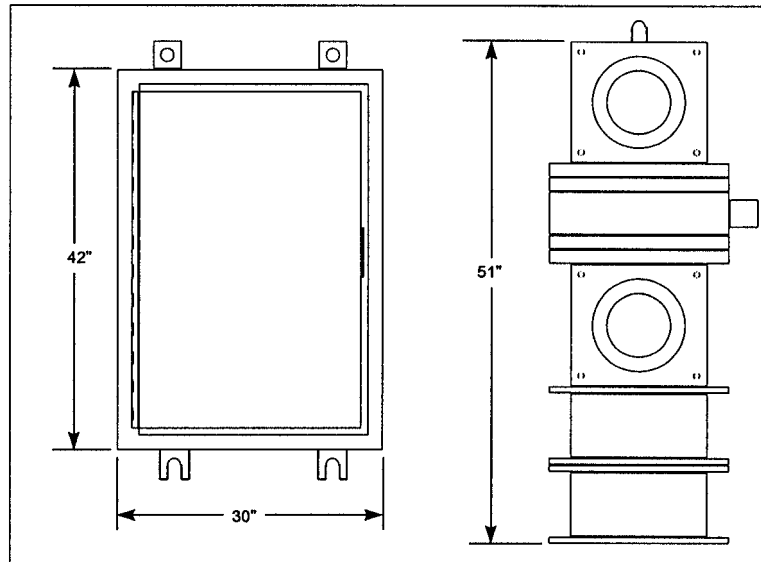

Figure 5-1
- a. The CG-1000 sound signal system is comprised of a CG-1000 power supply and an ELG-300/02 (or ELU-300/02) emitter (Figure 5-1). ELG emitters are directional and resemble a loudspeaker while the ELU emitters are omnidirectional with outlets equally spaced around its perimeter.